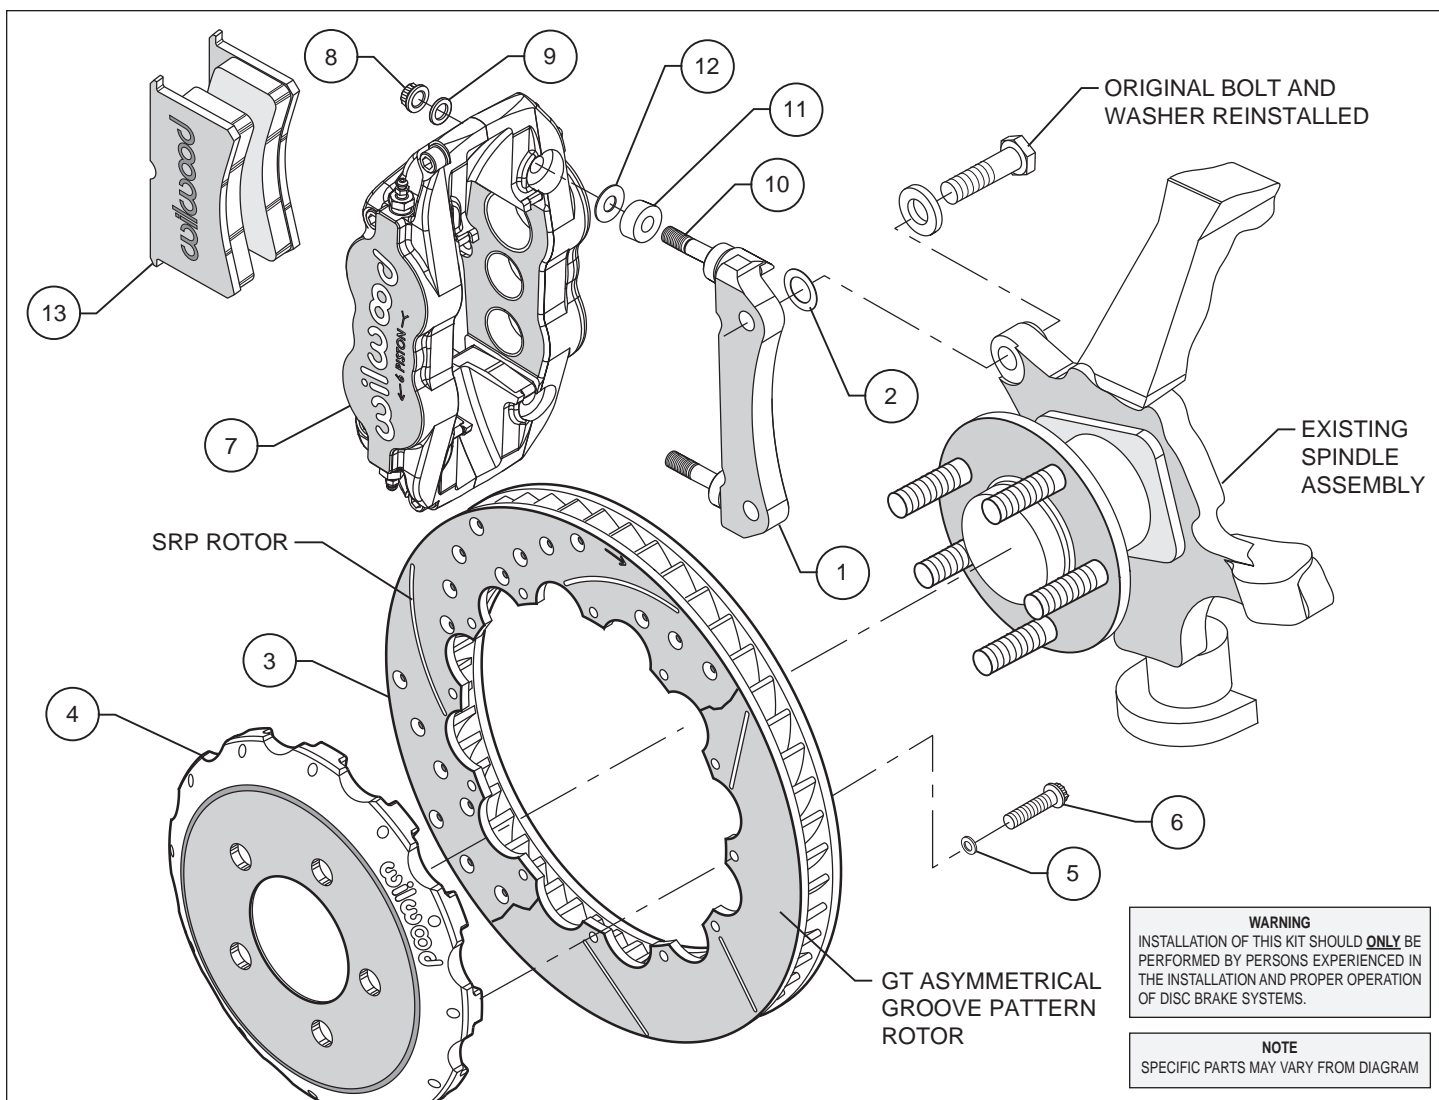
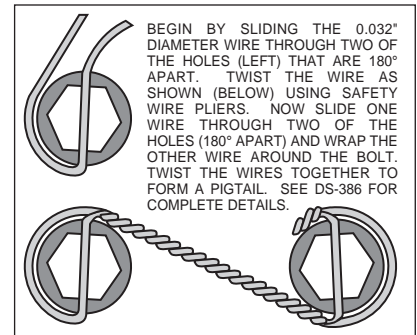

Figure 1. Typical Installation Configuration
Figure 3. Safety Wire Diagram
- Assemble the rotor (3) to the hat (4) with the bolts (6) and washers (5) as indicated in the configuration pictured in Figure 1. Using an alternating sequence, apply red *Loctite*® 271 to the threads and torque bolts to 155 **in-lb**. For an added measure of security, the bolts may be safety wired using standard 0.032 inch diameter stainless steel safety wire as shown in Figure 3. Please refer to Wilwood's data sheet DS-386 (available at www.wilwood.com/Pdf/DataSheets/ds386.pdf) for complete safety wire installation instructions.
- **NOTE:** This kit contains distinct right and left hand calipers that must be mounted in a specific direction, as described below. Lubricate the caliper mounting studs (10) with lightweight oil. Initially place one .035" thick shim (12) and spacer (11) on each stud as shown in Figure 1. Mount the caliper (7) onto the bracket (1) using lock nuts (8) and washers (9), Figure 1. Ensure that the caliper is mounted so that the largest pistons are at the rotor exit end of the caliper, in relation to the direction of rotor rotation. Temporarily tighten the lock nuts and view the rotor through the top opening of the caliper. The rotor should be centered in the caliper. If not, adjust by adding or subtracting shims (2) between the bracket and the upright. Always use the same amount of shims on each of the two mounting bolts. Once the caliper alignment is correct, remove the bracket mounting bolts one at a time, apply red *Loctite*® 271 to the threads, and torque to manufacturer's specifications.
- Remove the caliper center bridge pad retainer bolt, nut, and tube from the caliper. Slide the brake pads (13) into place. They should install easily without interference. Check that the outside radius of the brake pad is aligned with the outside diameter radius of the rotor face. Add or subtract .035 shims (12) between the caliper and mount bracket to gain the proper alignment. Reinstall the center bridge pad retainer tube, bolt, and lock nut. The locknut should be snug without play in the bolt or tube. Be cautious not to over tighten.
- Once all clearances have been checked, remove the wheel, caliper, hat, and rotor from the spindle and hub. Secure the caliper mounting bracket (1) to the spindle using red *Loctite*® 271. Torque the bolts to 65 ft-lbs. Reinstall the hat and rotor assembly and again use several lug nuts to hold it in place. Lubricate caliper mounting studs and nuts with lightweight oil, reinstall the caliper, torque the caliper nuts (8) to 28 ft-lbs.